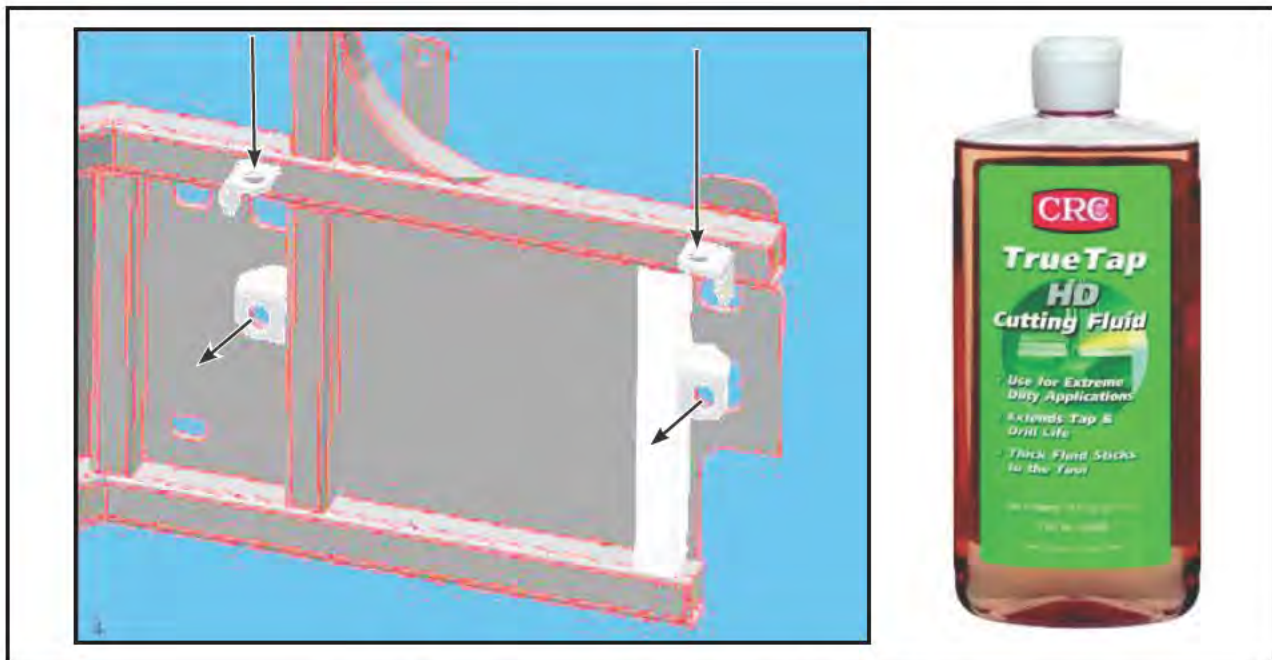

Figure 15 - Recommended Directions to Enlarge Holes
- 1.14. With a power drill and using a tube brush (see Figure 18) or a polishing disc, clean and polish the interior surfaces of each hole in the directions shown in Figure 15.